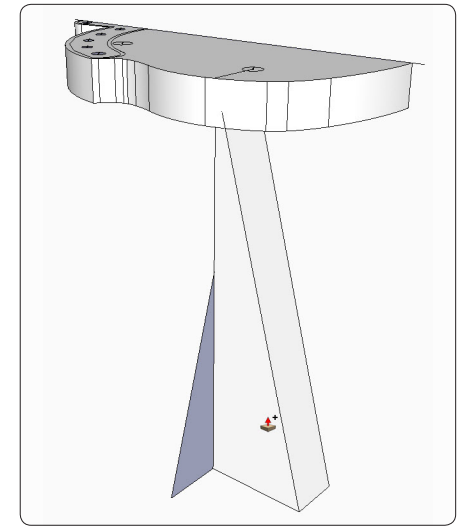

Figure 33. Use the Push/Pull Tool to give each triangle thickness. The resulting shapes should fully intersect each other.
Step 7 Select the Push/Pull Tool and pull out each triangle; they should fully intersect each other. Tap the Ctrl key (Option on the Mac) to make the Push/Pull Tool pull out one face over the top of the other triangle. Figure 33 shows one triangle pulled out part way. When